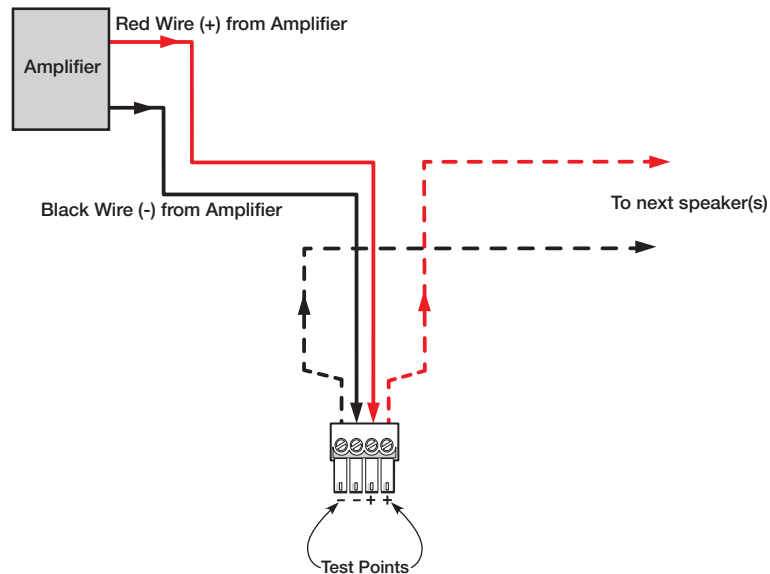

Figure 18. Impedance Test Points — Loop-through Configuration
- The impedance of the speakers downstream of the one being tested can be measured while the system is on by connecting to the outer (LOOP) terminals of the captive screw connector, as shown in figure 18.